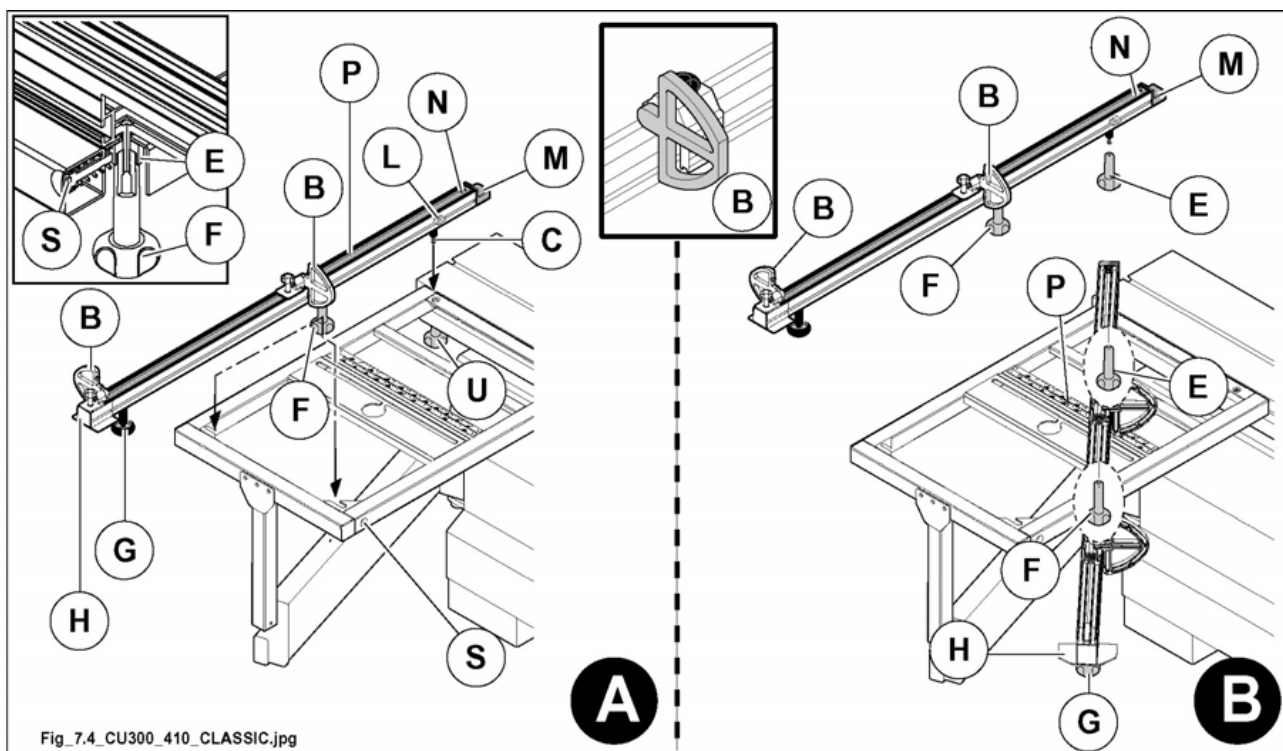

Fig. 7.4
- Position the telescopic ruler in such a way that the pin (C fig. 7.4) fits into place against the gib (L fig. 7.4). The gib (L fig. 7.4) is adjusted by our technicians and is used to rapidly position the telescopic ruler at the right distance from the saw blade (only at a 90° position).
- Position the telescopic ruler in such a way that the pin (E fig. 7.4) fits into place against the device (S fig. 7.4).
- Tighten the knobs (F fig. 7.4) and (U fig. 7.4).
- For use, position the stops (B fig. 7.4) referring to the metric ruler (P fig. 7.4).
- For use, position the ruler referring to the plate (P fig. 7.4) and tighten the knobs (F fig. 7.4) and (E fig. 7.4).
The ruler is fitted with an extractable telescopic extension (H fig. 7.4), which may be lengthened as required after loosening the knob (G fig. 7.4).
When the chip guard (M fig. 7.4) is worn, bring it up to the saw blade by loosening the grub screw (N fig. 7.4).
The telescopic rule is supplied with the stops (B fig. 7.4). These can rapidly be positioned to rest on or push the workpiece during machining, by simply tipping them over.